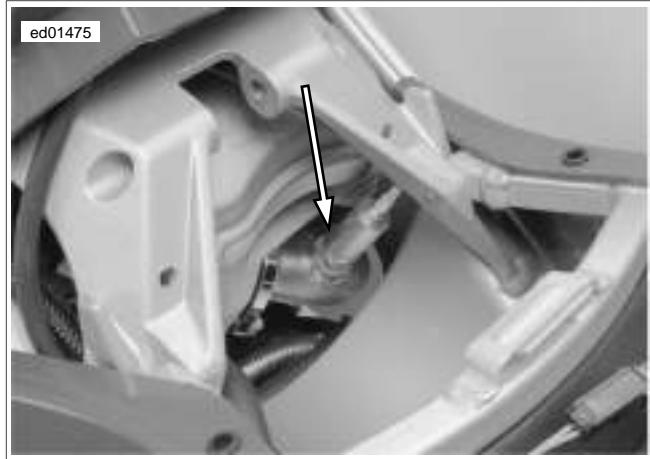

Figure 2-53. Oxygen Sensor (shock absorber removed)
**Loose Oxygen Sensor:** See Figure 2-53. If the oxygen sensor is loose engine performance may be affected. This could also show up as a slow changing oxygen sensor voltage.